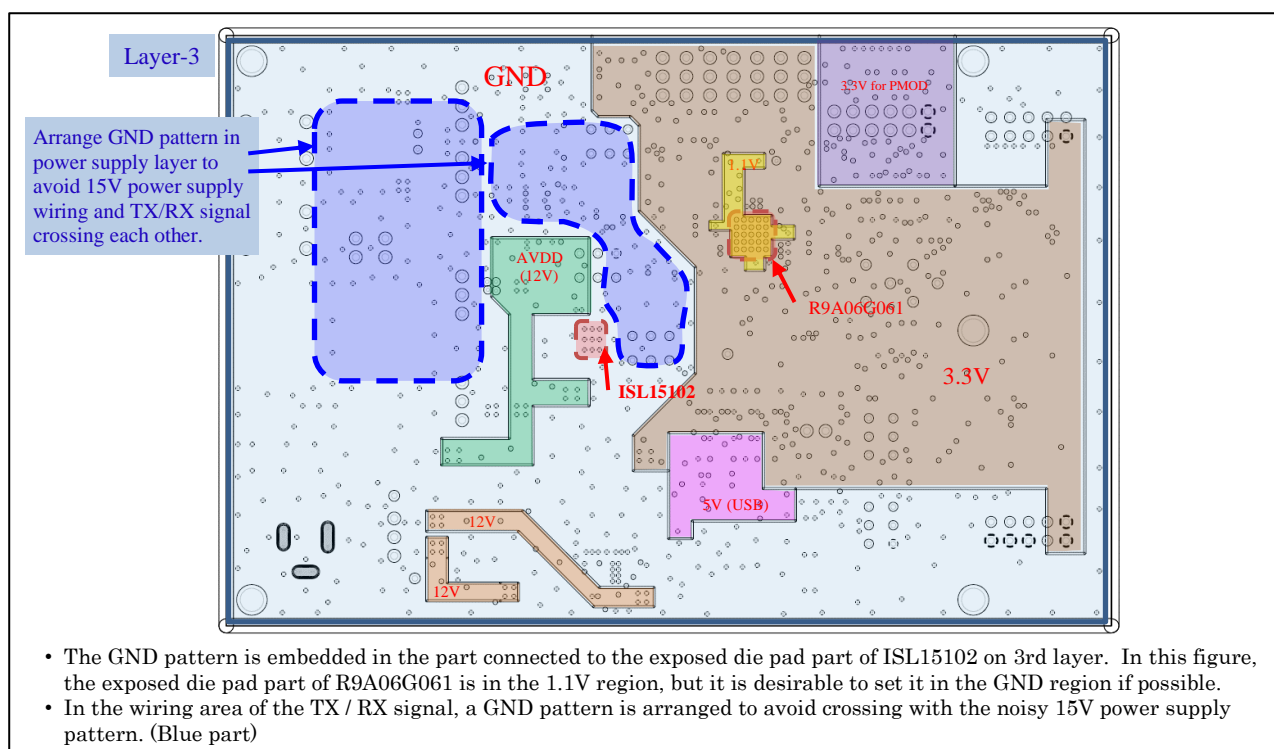

Figure 5-4 Example of connection between exposed die pad of R9A06G061 and ISL15102 and GND pattern (3rd Layer)
- On the power supply layer (3rd layer), use a GND pattern as much as possible in the area that overlaps with the TX/RX signal line and its components. (Figure 5-4 shows an example of the GND pattern of the power layer)
- In the power supply layer of the 3rd layer, place a GND pattern as much as possible in the via hole part connected to the exposed die pad of R9A06G061, ISL15102, and in the area that overlaps with the TX/RX signal wiring and its components. (An example of 3-layer connection is shown in Figure 5-4)
- Figure 5-4 show examples of the power supply layer.